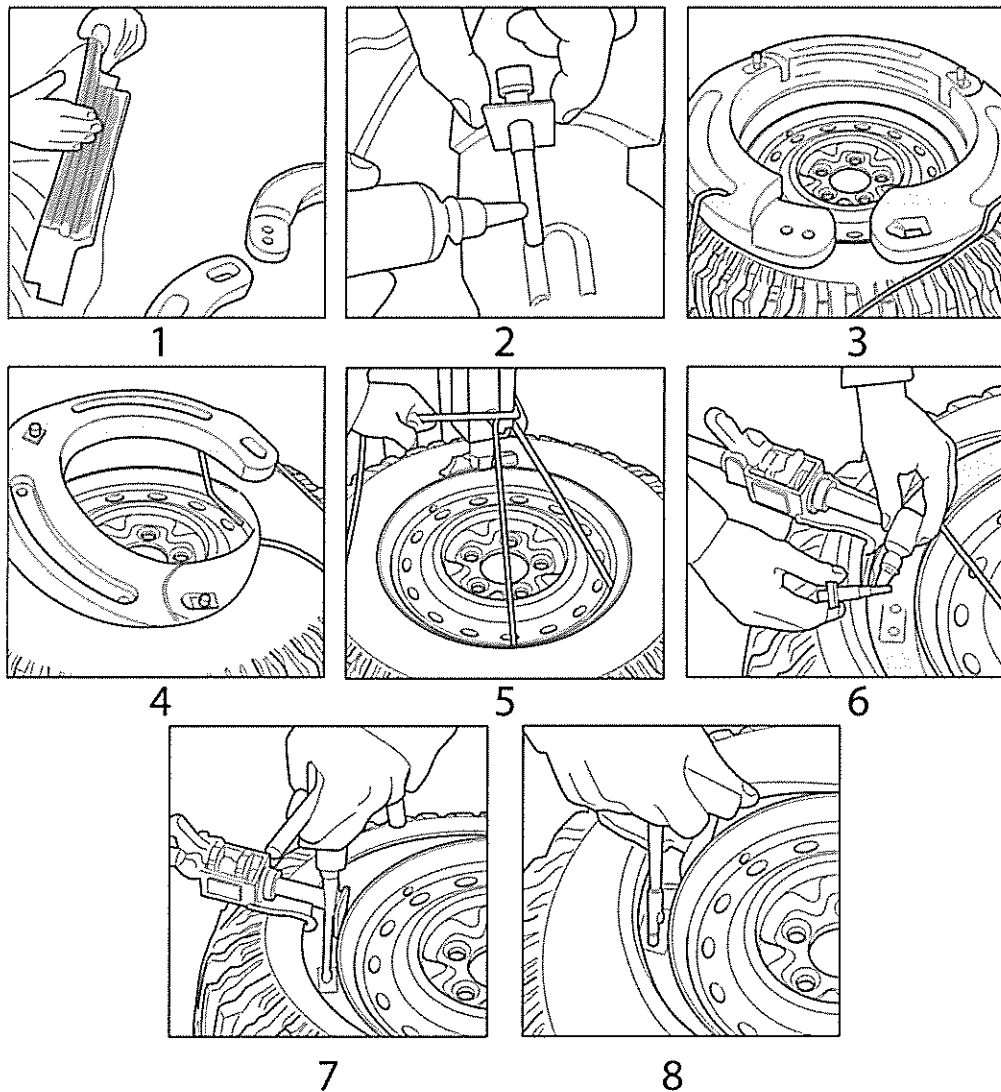

Fig 2 Runflat installation
6.3 Disassemble new runflat insert assembly (see Fig 1/2). Using high temperature grease (see Table 1, Ser. 1) grease underside of rollers making sure that grease slots are completely full of grease (see Fig 2/1).
6.4 Fit a double locking washer and wedge to two bolts and Apply Loctite 243 (see Table 1, Ser. 2) thread adhesive to bolt thread (see Fig 2/2).
6.5 Link the three runflat rollers together and using two wedge bolts and secure loosely into rivnut plates (in opposite side of rollers). Leave third joint unconnected (see Fig 2/3).
6.6 Pass assembly cord (see Table 1, Ser. 3) through adjacent holes in third joint (see Fig 2/3).
6.7 Lift top bead of tyre and insert runflat rollers, with wedge slot uppermost, making sure wedges sit at the top of the wedge bolts (see Fig 2/4). Align the third joint approximately in line with the valve.
6.8 Using the cord, pull ends of roller together (see Fig 2/5). It may be necessary to lift up the tyre to bring the runflat assembly into the well of the wheel. When the ends of the third joint roller are pulled together, rotate the whole assembly so that the joint sits both sides of the valve with the ends of the roller overlapping.
6.11 Fit a double locking washer and wedge to third bolt and Apply Loctite 243 (see Table 1, Ser. 2) thread adhesive to bolt thread (see Fig 2/6). Tighten down wedge bolt so that wedge top is level with top of wedge slot and the gaps between the roller ends are the same.
6.16 Fit clamping plate bolts (see Fig 2/8) and tighten down using "T" bar fitting tool (see Table 1, Ser. 6).